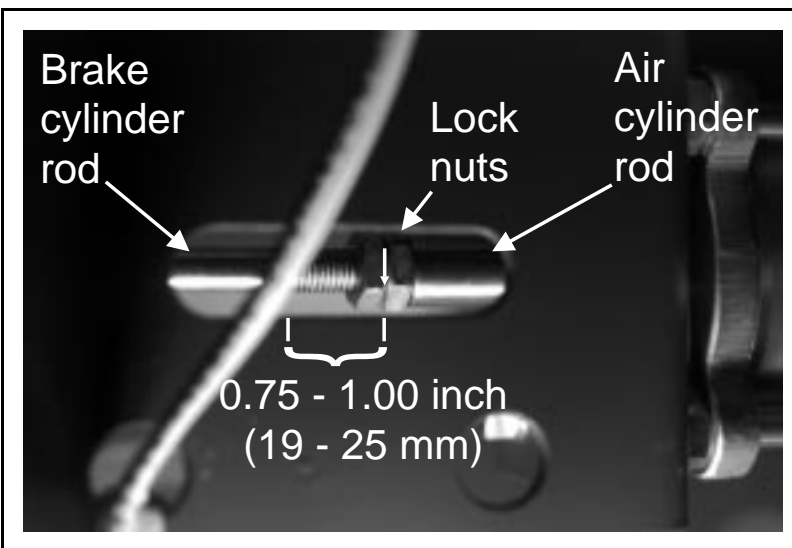

FIGURE 6 (MSSMA426AE)
3. Tighten lock nuts (FIGURE 6).